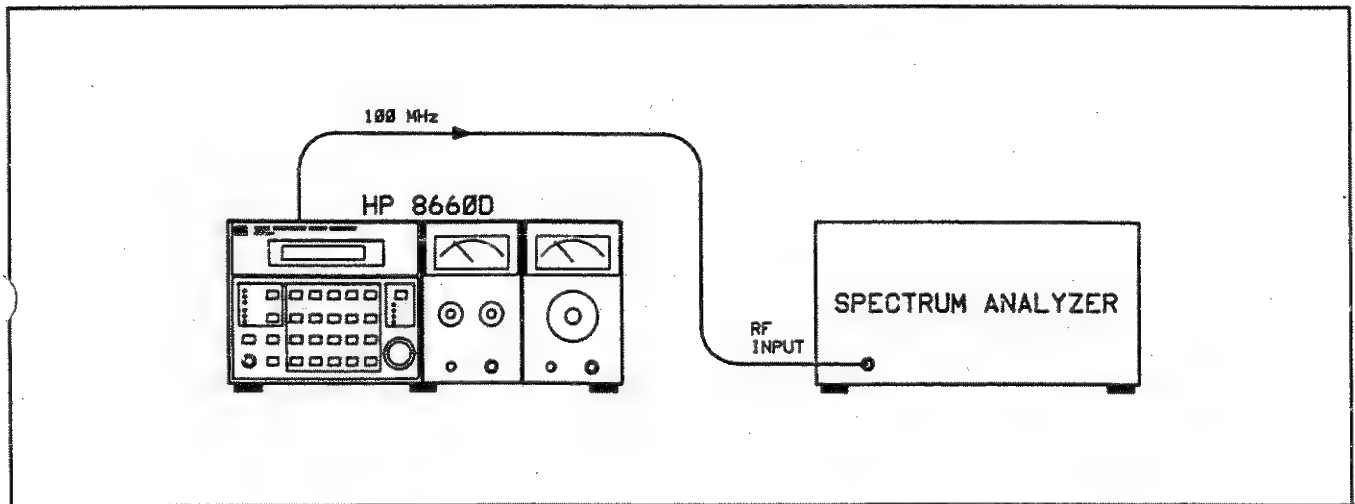

Figure 5-5. RF Level Checks Test Setup
- d. Connect the Spectrum Analyzer RF INPUT to the 100 MHz output of the A4A4 assembly and tune the Spectrum Analyzer CENTER FREQUENCY to 100 MHz. The 100 MHz signal should be $> +10$ dBm (see Figure 5-5 and 5-6).